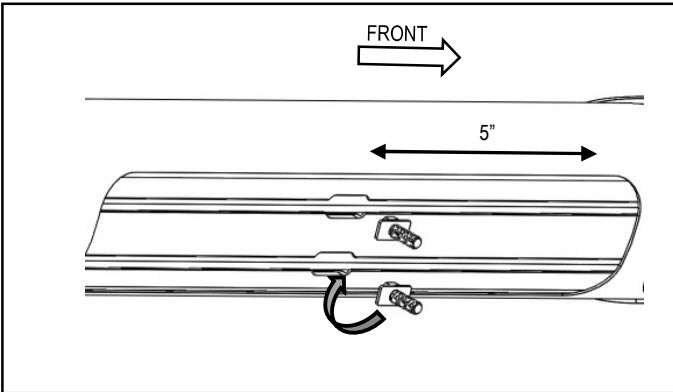

Figure 7
Step 5. Introduce (2) Bolts in the front direction in the aluminum rail on the underside of the side step in center of inner extrusion approximately to 5" from cut out. Figure 7.